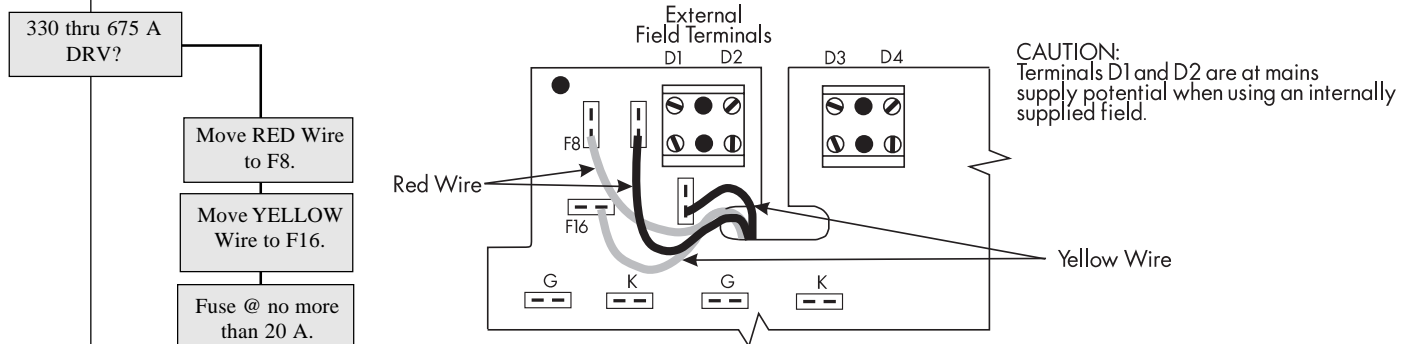

Figure 3.5 - External Field Supply Jumper Connections for Units Rated 330 through 675 A.
- Verify that power is disconnected, then move the RED wire from its existing position to internal terminal F8, and the YELLOW wire from its existing position to internal terminal F16 (see Figure 3.5).